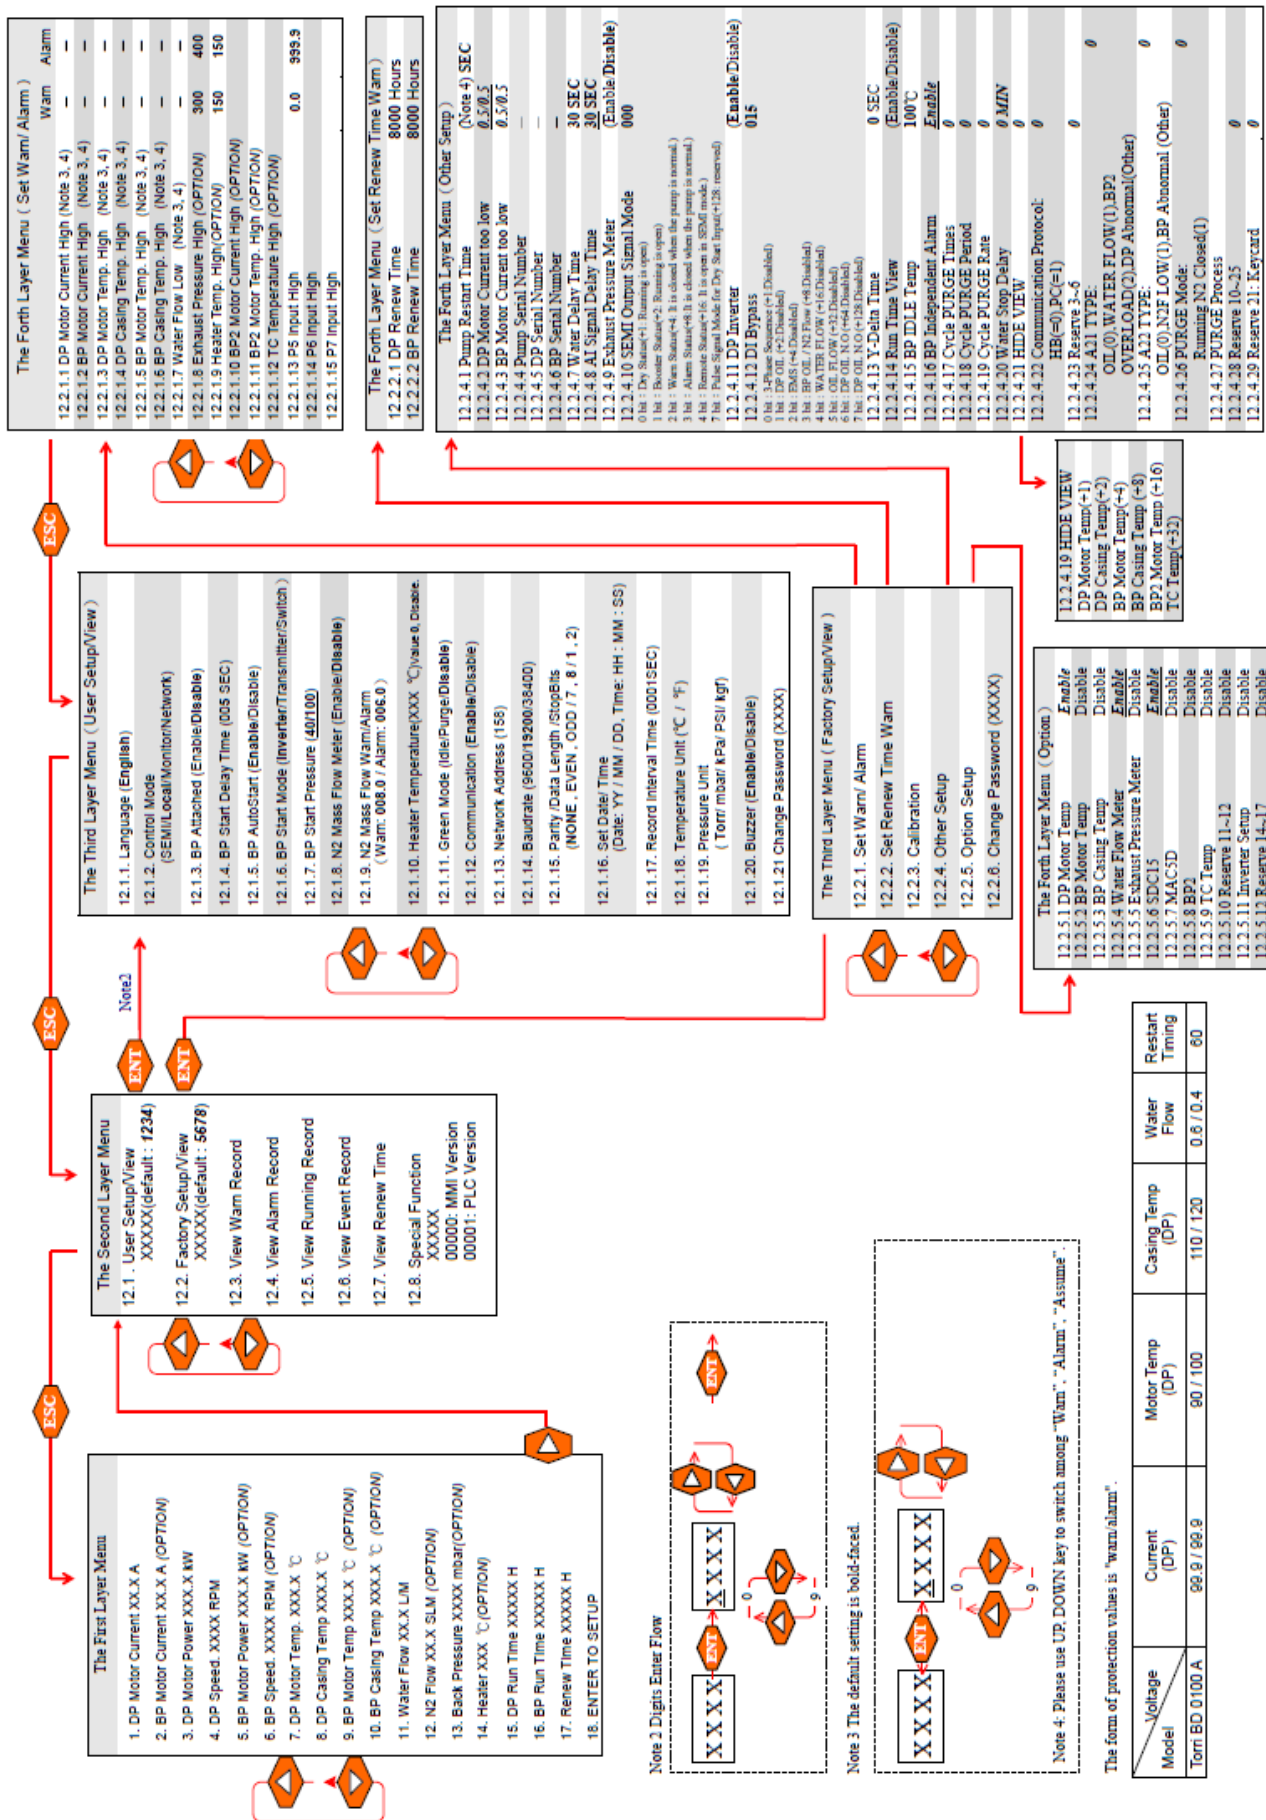

Figure 4.4 Control Panel Operating Flowchart
4.4 Control Panel Operating Introduction (See Fig.4.4)